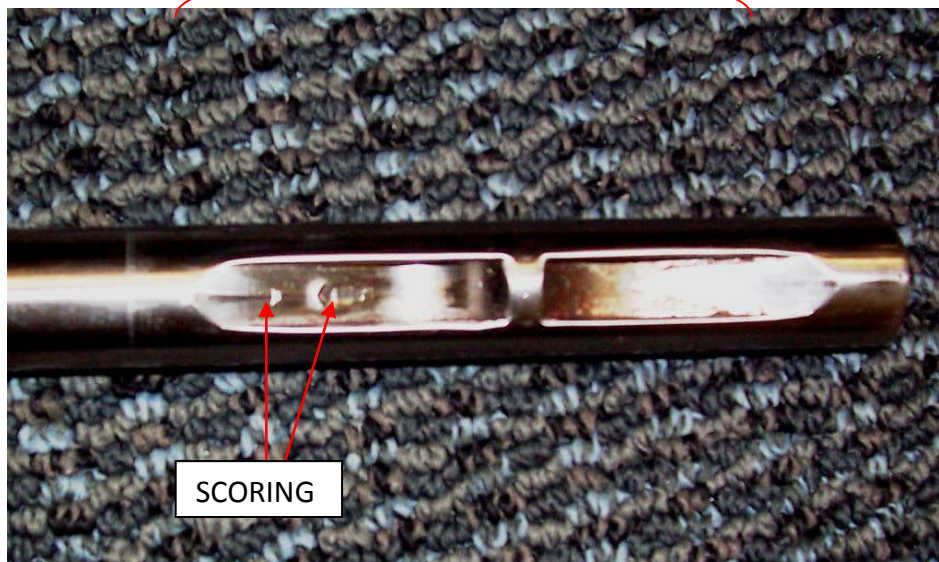

FIGURE 2
**COMPLIANCE METHOD:** The main gear actuating ram needs to be inspected under the trolley gear lock. If there is uneven wear or pocketing from the set screw on the ram, as in Figure 2, the rod must be polished smooth or replaced. We authorize and encourage customers to polish the ram when possible. The set screws must be replaced if they have a dimple in the end as they have been improved by removing the machined dimple and polishing